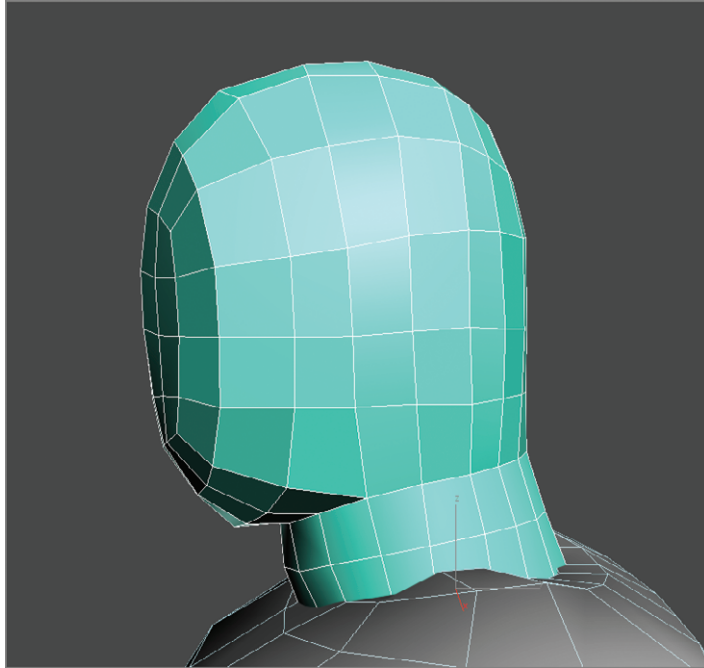

FIGURE 9.18 Move edges or vertices to evenly space the edges.
3. Now that the head is complete, take the time to move the edges and vertices to more evenly space out and clean up the topography (which is the flow and organization of edges on a given 3D model) of the head, as shown in Figure 9.18.